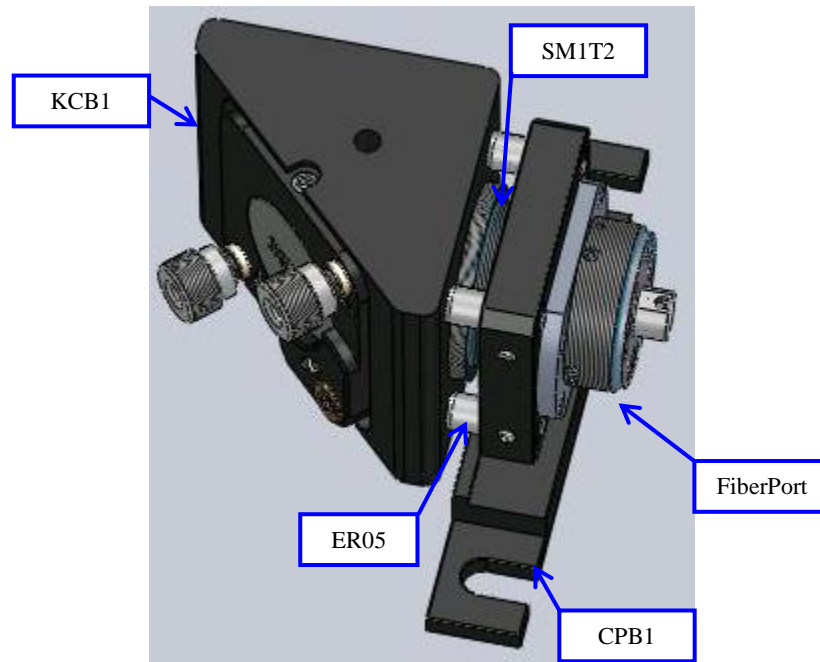

Figure 5.1.2 Adjusting the Right Angle Mirror Mounts KCB1 and connection to Fiberport.
- 9) Connect the KCB1 assembly to the FiberPort assembly through the ER05 rods. The ER05 cage rods should be secured in the CP02FP adapter and the other end of the SM1T2 lens tube coupler should slide into the KCB1 right angle mirror mount. You need not necessarily thread this end inside the KCB1 as the cage rods will hold this combination tightly in place. The beam path from the FiberPort to the KCB1 should be closed. See the ensuing model Figure 5.1.2.
- 13) Use a second KCB1 with a second mirror, PF10-03-P01 and align in the same way as in steps 10-12 above. The completed model is shown in Figure 5.1.2.